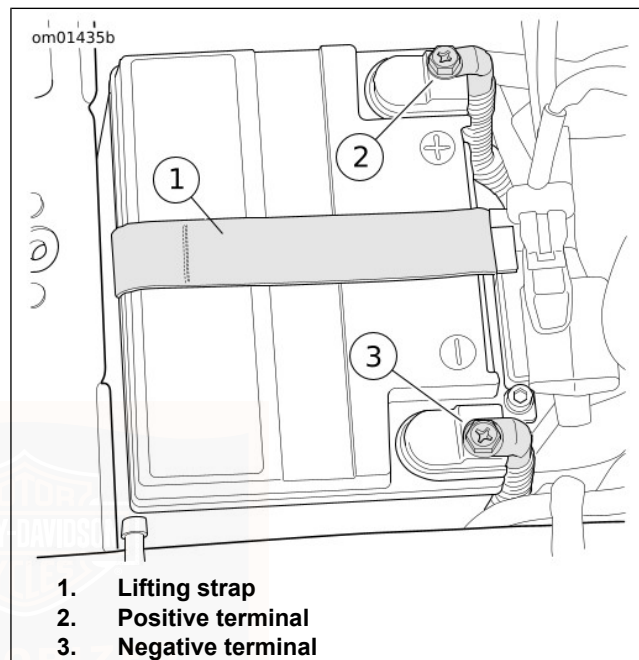

Figure 90. Battery Compartment
10. See Figure 90. Disconnect both battery cables, negative battery cable first.
3. See Figure 90. Place the battery into the battery tray, terminal side forward.